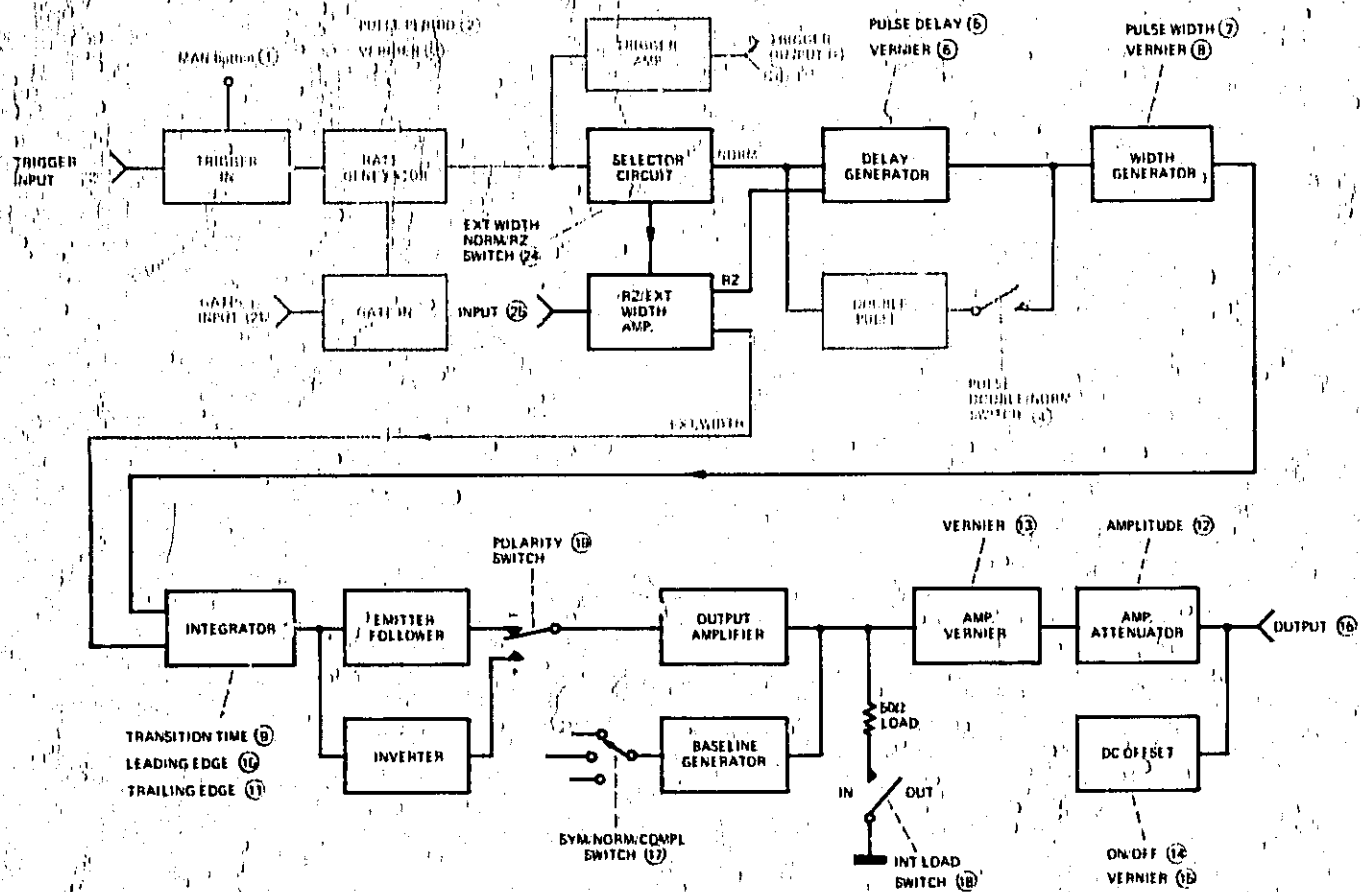

Figure 3-18. RZ mode - block diagram
3-40 In RZ mode external pulses, applied to the INPUT connector (25) on the 8012B rear panel, trigger the delay generator directly (see figure 3-18), and the shape of the output pulses is determined by the pulse forming circuits following the delay generator. The
3-41 The circuits and controls involved in RZ mode are shown in Figure 3-18.